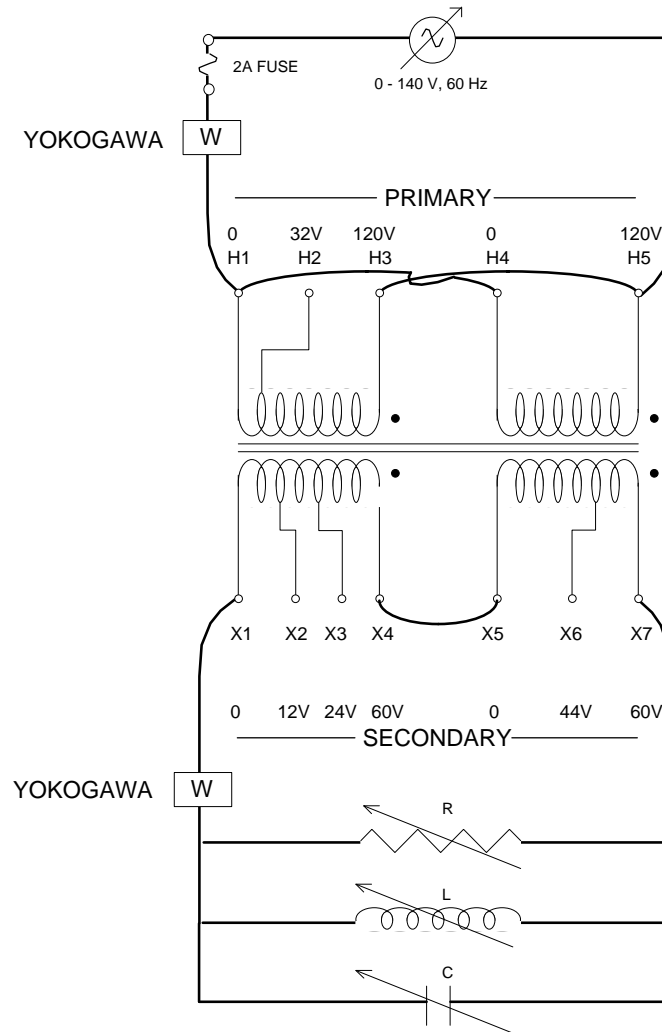

Figure 5. Transformer Connections for Step #8.
- Perform the voltage regulation and efficiency measurements under various load conditions, as shown in Figure 5.